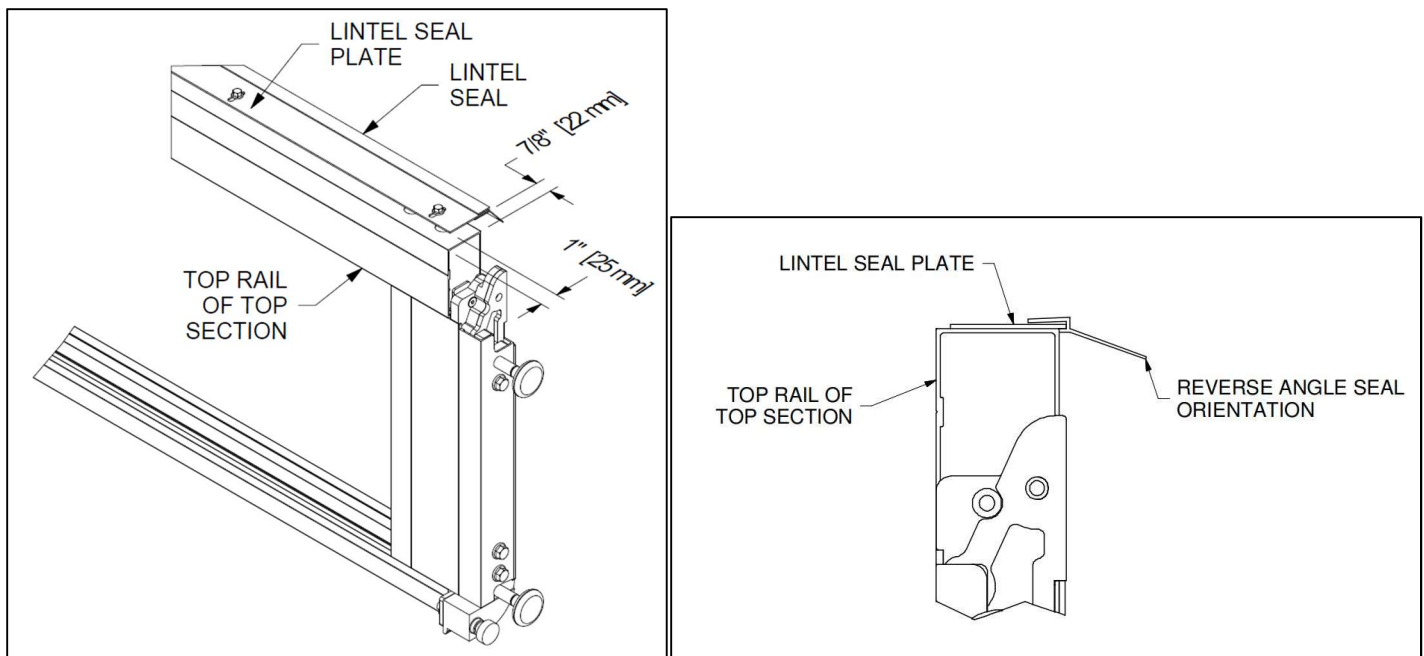

Figure 26– LINTEL SEAL FASTENED TO TOP SECTION
70. Fasten the lintel seal plate to the top rail of the top section with the provided self-tapping screws. See **Figure 26** for plate location. This plate compresses the lintel seal into the header seal cross member attached to the header/lintel.